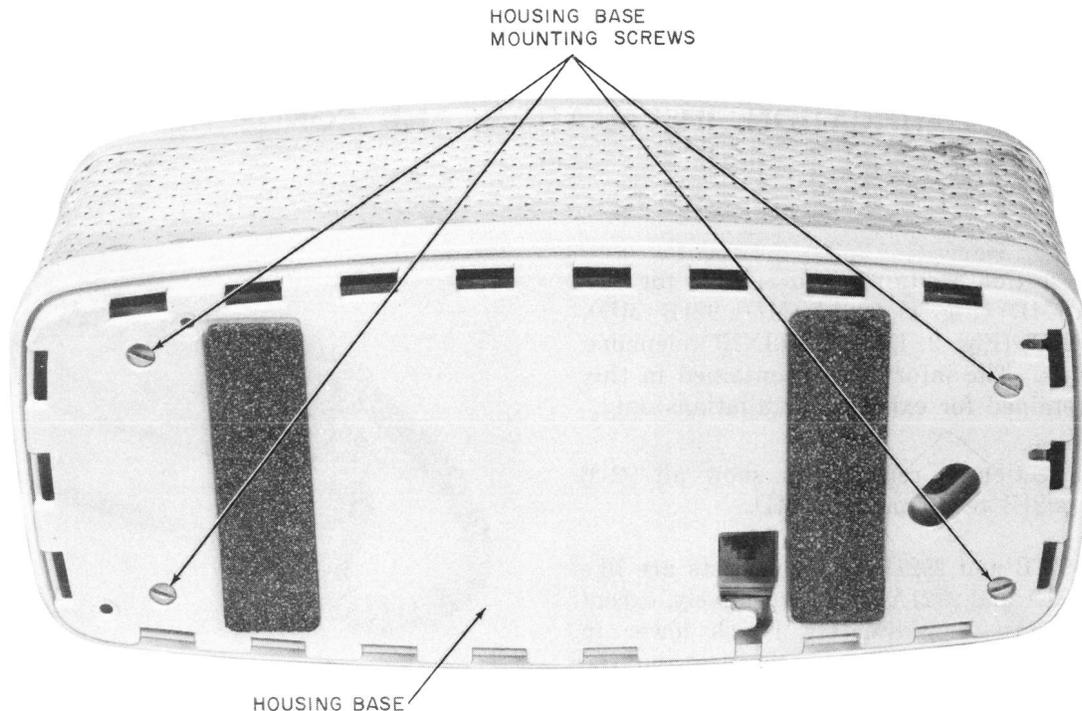

Fig. 3—Removing Plastic Housing Base (921A, 921B, 2921A, 2921B Telephone Set)
- (1) Remove housing, refer to Fig. 3.
- (2) Loosen dial mounting screws.
(2) Remove the four screws on the bottom of the plastic base and withdraw the base. Refer to Fig. 3.